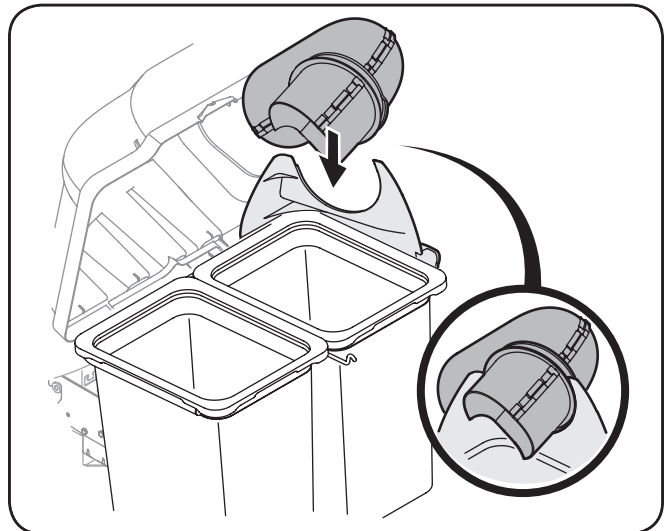

Figure 4-23
14. With the bagger cover open, install the upper chute over the chute adapter, and rest the top so that the chute support sits in the upper chute groove. See Fig. 4-23.